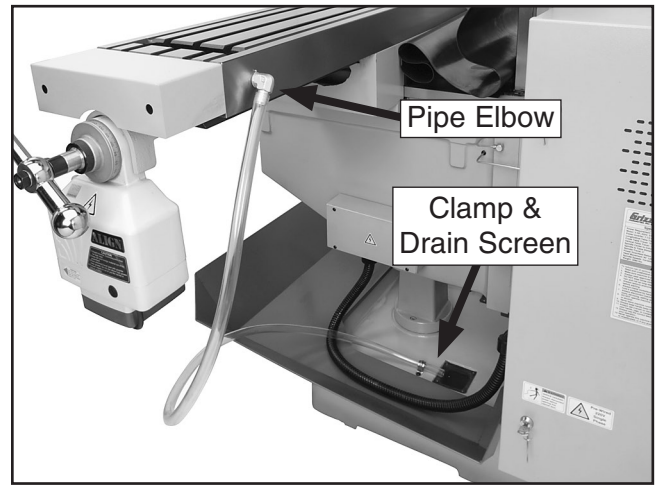

Figure 17. Coolant return hose installed (right side shown).
- Attach each coolant return hose to the pipe elbow on the rear of the table, then secure the other end through the clamp on the base and over the drain screen, as shown in **Figure 17**.